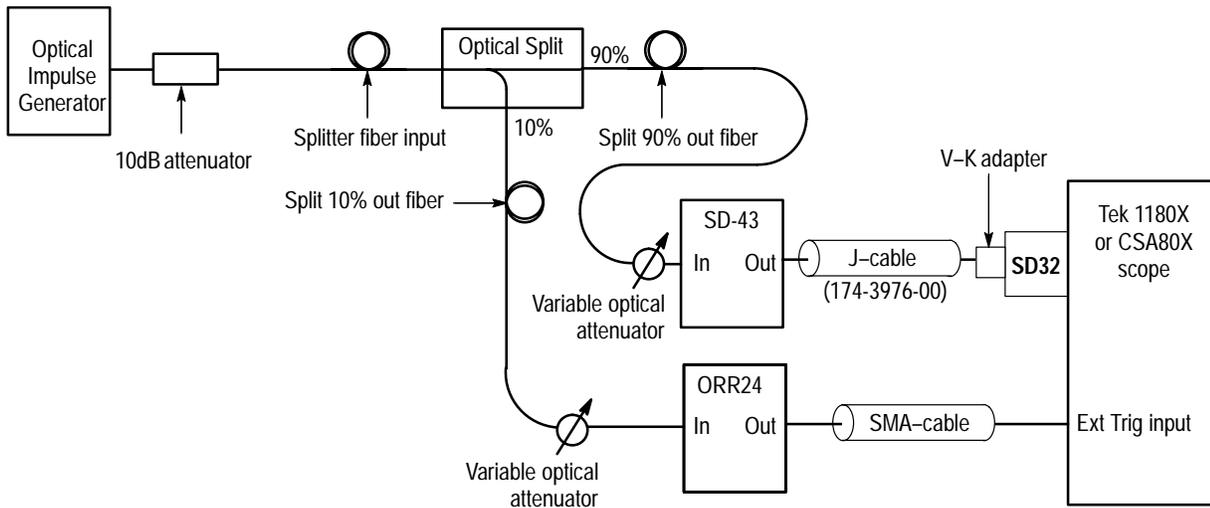

Figure 7: Setup for frequency response measurement, SD-43 standard configuration
1. Connect the output of the optical impulse generator to the 10 dB inline attenuator, 90/10 splitter, and optical attenuators as shown in Figure 7. Start with about 30 dB of attenuation on both variable attenuators.
3. For an SD-43 with the standard configuration, finish connecting the setup as shown in Figure 7. Note that the setup requires an SD-32 sampling head.